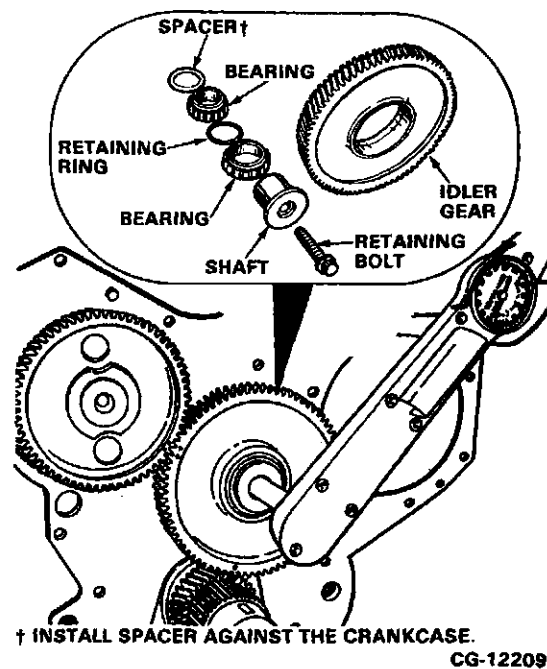

Figure 8.18. Install Idler Gear Assembly
5. Install the idler gear as follows: (Refer to Figure 8.18)
**IDLER GEAR COMPONENTS MUST BE ASSEMBLED AS SHOWN IN FIGURE 8.18 OR GEAR TRAIN DAMAGE COULD OCCUR.**